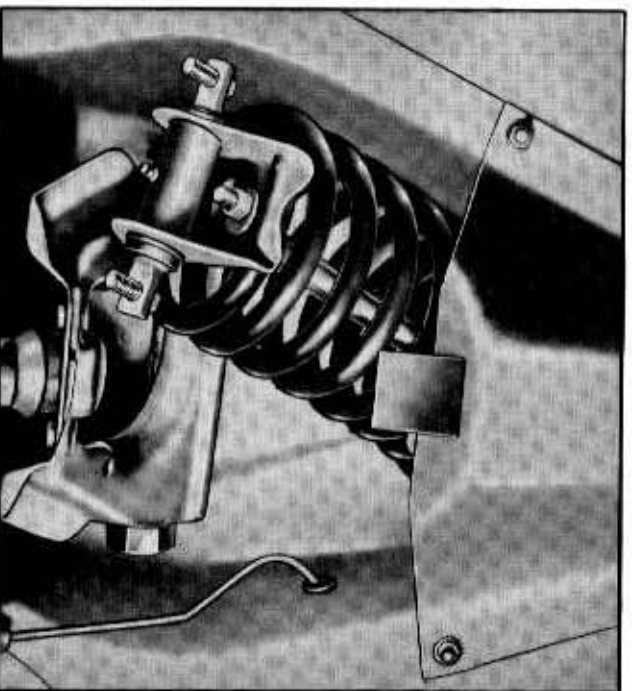

Fig. 3-16—Coil Spring Removal—(61CM-408)
7. Guide the spring and tool down and out the forward end of the wheelhousing. See figure 3-16.